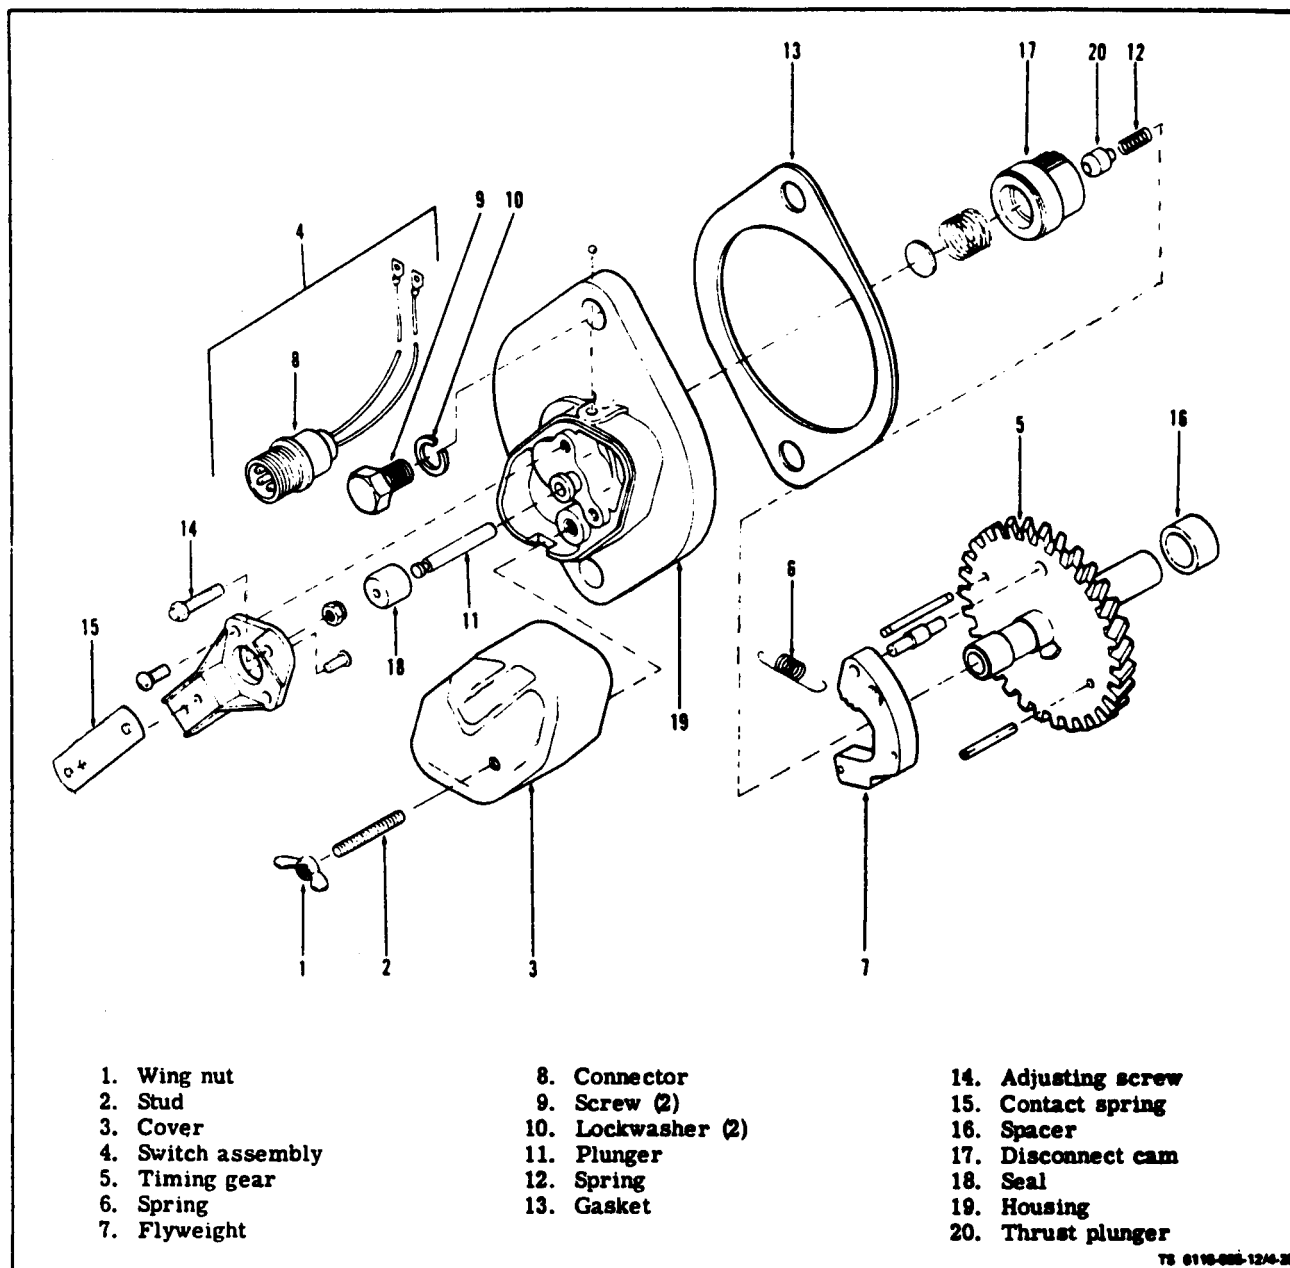
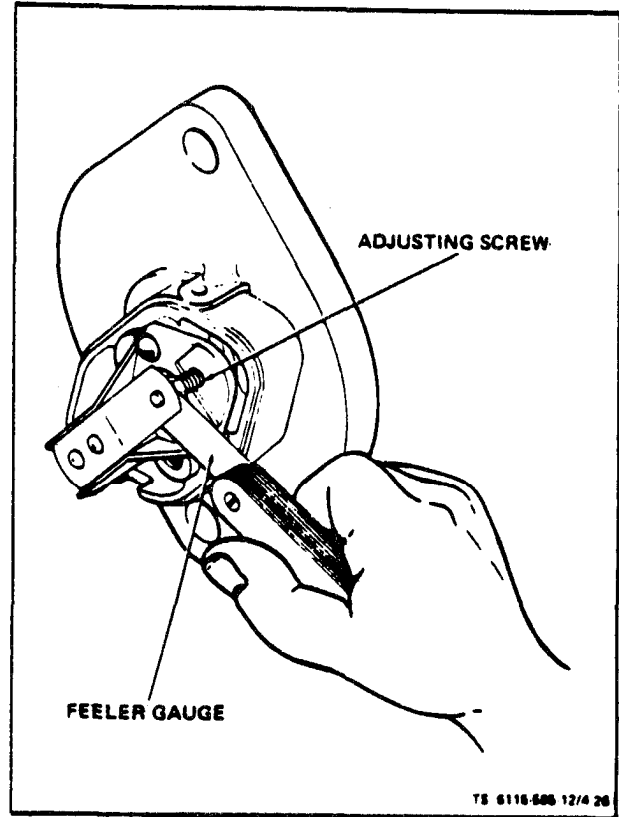

Figure 4-25. Lockout Switch and Gear
Figure 4-26. Adjusting Starter Lockout Switch
a. Inspect (see figure 4-25). Disconnect negative battery cable. Remove wing nut (1) and cover (3) and inspect switch contact points between contact spring (15) and adjusting screw(14) for physical damage.
b. Test. With engine off, disconnect switch at connector (8). Using an ohmmeter, test that there is
c. Remove. Disconnect switch lead from connector (8). Remove two screws (9) and lockwashers (10) attaching switch to engine back plate. Carefully remove switch taking care to to lose thrust plunger
(20) and spring (12). Slide gear (5) out through opening in engine back plate. Clean any gasket (13) material from switch and back plate.
e. Replace. Make certain spacer (16) is on shaft and slip timing gear (5) through opening in engine back plate. Make certain that shaft seats properly in gear cover and that gear teeth are properly meshed. Place thrust plunger (20) and spring (12) in gear shaft. Slide switch and gasket (13) over shaft and attach to engine back plate with two screws (9) and lockwashers (10). Use a new gasket (13) between switch and engine back plate. Reconnect electrical connector (8).
f. Adjust. With engine stopped, remove cover retaining wing nut (1) and remove cover (3). Turn adjusting screw (14) clockwise until points open. Turn adjusting screw counterclockwise until points just close (see figure 4-26). Start engine and disconnect switch from wiring harness at connector (8, figure 4-25). Adjust adjusting screw for a 0.040 point gap. Replace cover (3) and wing nut (1). Reconnect connector (8).